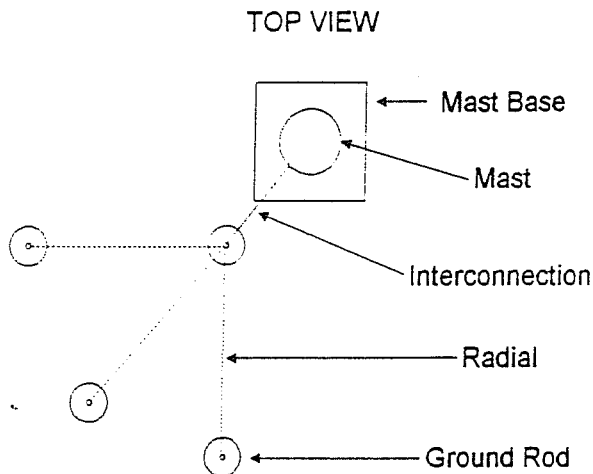

Figure 8-10
- Install two to three radials by driving in ground rods and attaching them with cable or strapping. See Figure 8-10. Connect these radials to the single point ground rod also.